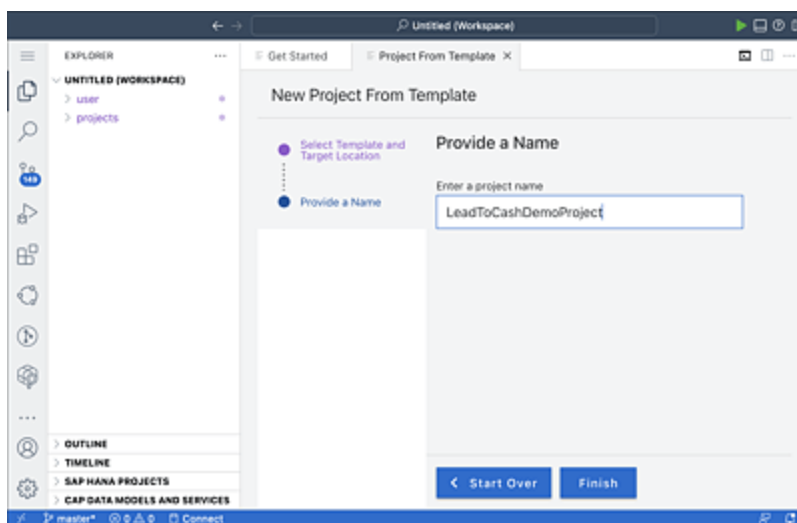

Figure 18.2 Create an MTA Project Folder
3. Provide a project name in the **Enter a project name** field (here, "LeadToCashDemoProject"), and click **Finish**, as shown in Figure 18.2.